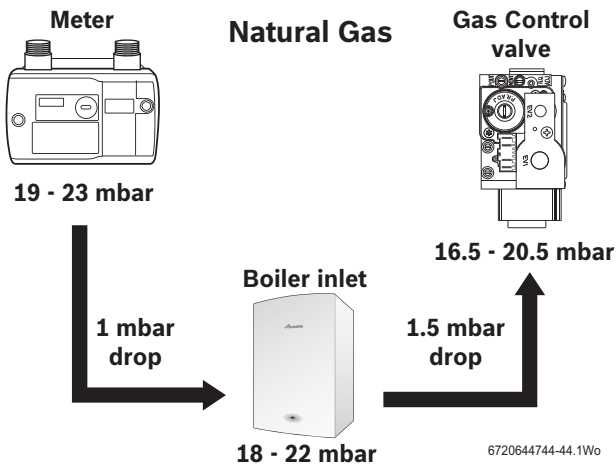
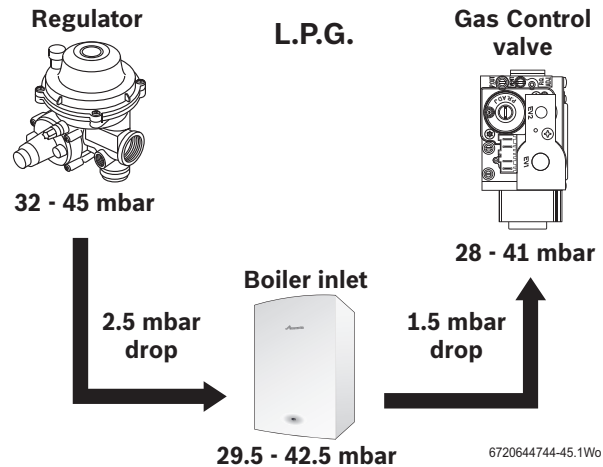

Fig. 41 Natural gas pressures
Fig. 42 L.P.G. pressures
- Press the Performance test button (J) for more than ten seconds and set Central Heating temperature to maximum.
- The Performance test button (J) will illuminate continually and the display (C) will alternate between  and the central heating flow temperature.
- ▶ Check the gas supply working pressure at the gas valve conforms to values shown in Fig. 41 or Fig. 42.
If the pressure drops are greater than shown in figure 41, then this would indicate a problem with the pipe work or connections within the system.
If the pressure drops are greater than shown in figure 42, then this would indicate a problem with the pipe work or connections within the system.